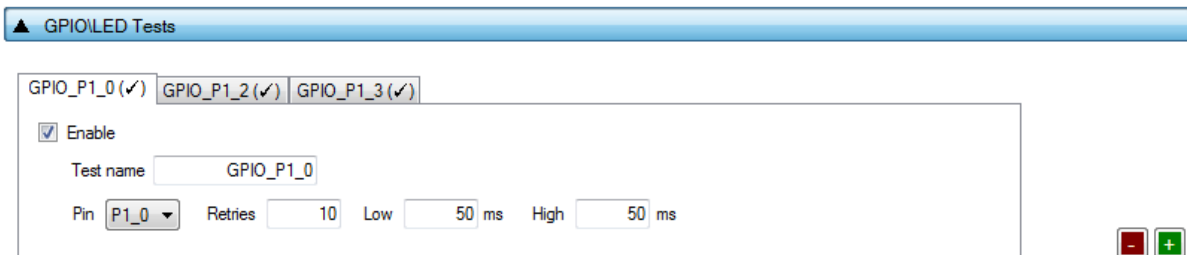

Figure 62: GPIO/LED Tests - DA14531
*GPIO/LED Tests* can have multiple instances with different settings. Tests can be added or removed using the two buttons (e.g. and in Figure 62) at the bottom right side of each panel.